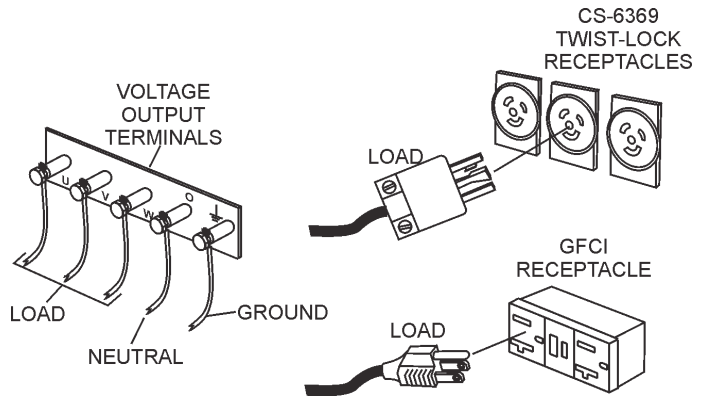

Figure 45. Load Connections
2. Connect the load to the **UVWO** terminals or **auxiliary receptacles** as shown in Figure 45. These load connection points can be found on the output terminal panel. To gain access to the UVWO terminals or other power receptacles, unlock the access cover and lift the door.